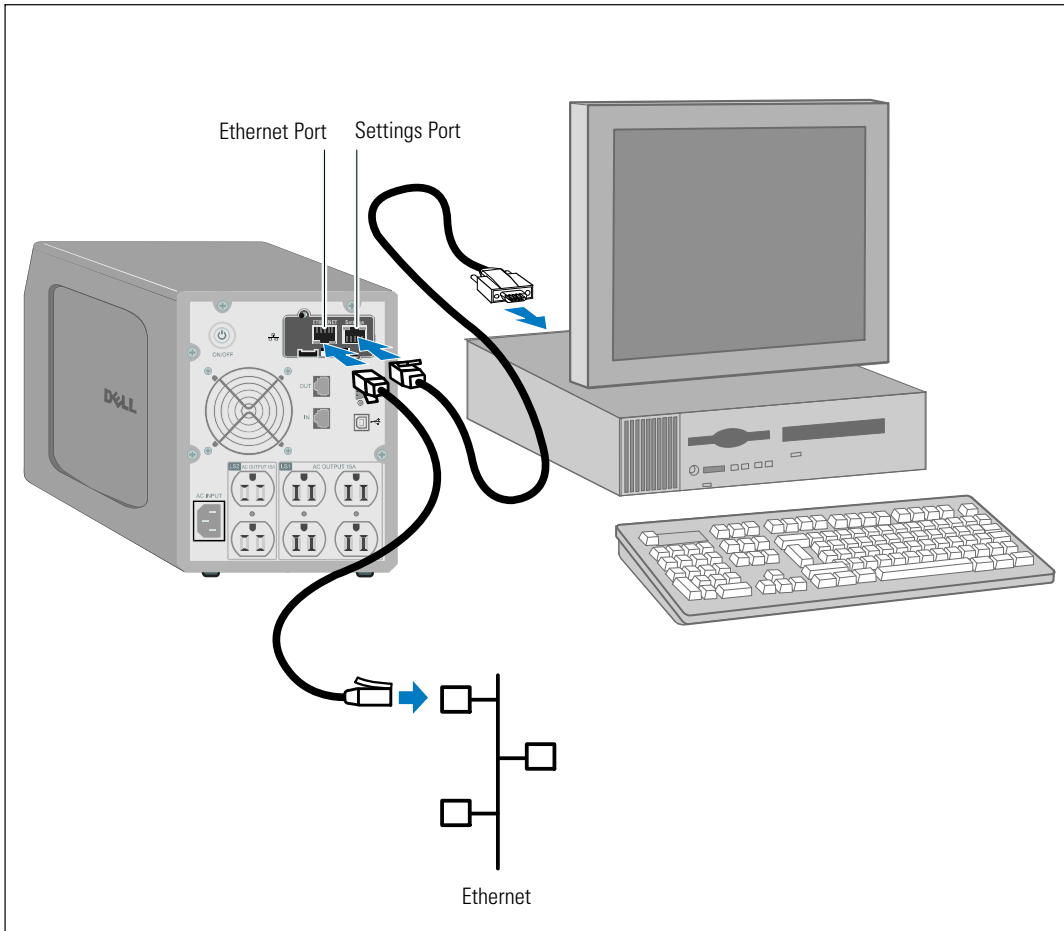

Figure 5. Connecting the Card
- 1 Plug the RJ-45 end of the supplied serial cable into the Settings port on the card (see Figure 5).
- 3 Connect an active Ethernet cable (not supplied) to the Ethernet port on the Dell Network Management Card (see Figure 5).